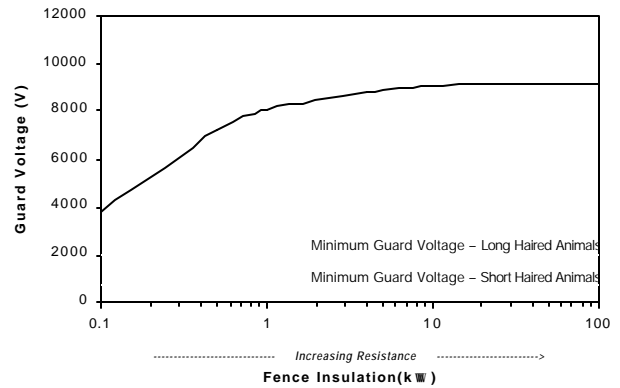

Figure 17. Guard Voltage for 3.3 mile (5.4 km) Fence.
**Shock Delivery:** Figures 17 and 18 show guard voltage outputs of the PEL 230 for 3.3 and 10 mile (5.4 and 16 km) lengths of single wire fence over a range of resistances. Table 10 provides the guard voltages at the "weeded" and "clean" fence conditions. Guard voltage values for other fence conditions are given in Appendix II. The higher the guard voltage the higher the shock delivered to the animal.
As can be seen from **Figures 17 and 18**, low resistance did not appreciably affect the shock delivery as the voltage output was above 2,000 V for all fence conditions. Thus, the PEL 230 can be expected to deliver a shock over a wide range of fence conditions.